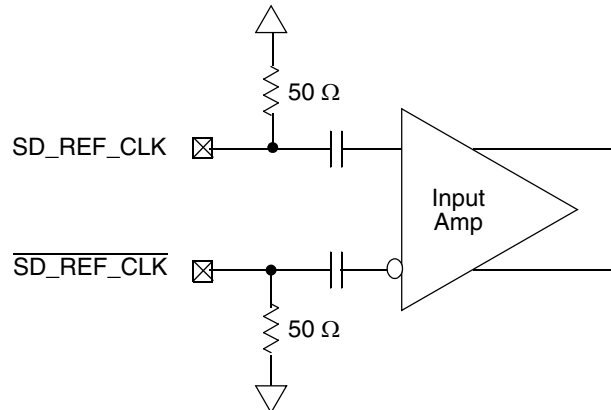

Figure 51. Receiver of SerDes Reference Clocks
Figure 51 shows a receiver reference diagram of the SerDes reference clocks.
- The $\overline{SD_REF_CLK}$ and SD_REF_CLK are internally AC-coupled differential inputs as shown in Figure 51. Each differential clock input ($\overline{SD_REF_CLK}$ or SD_REF_CLK) has on-chip 50- Ω termination to $SGND_SRDSn$ ($xcorevss$) followed by on-chip AC-coupling.